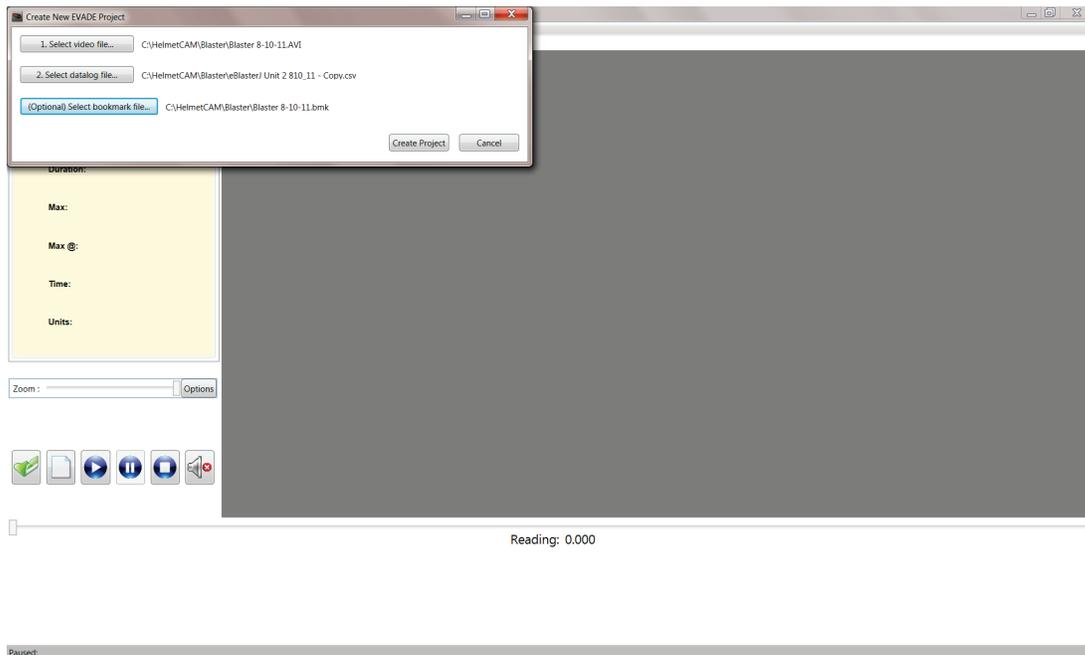

Figure 28. The Create New EVADE Project dialog box after all data file selections have been completed.
- Once these steps are completed, the **Create Project** button becomes highlighted (Figure 28). At this time, if you notice a mistake in selecting a data file, you can go to any of the previous steps, **(Optional) Select bookmark file**, **Select datalog file**, or **Select video file**, and click on the appropriate button to reselect the data file.